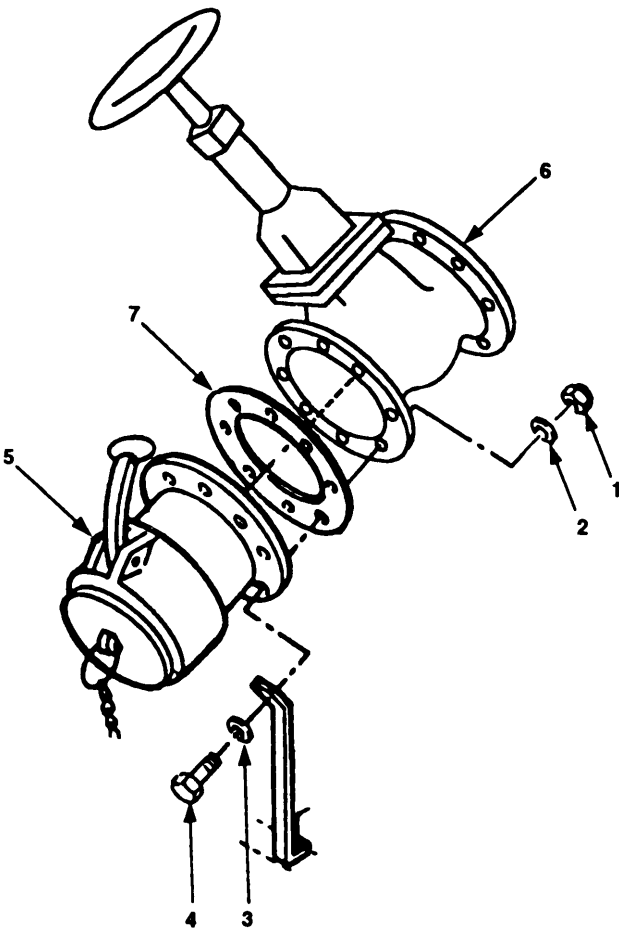

Figure 4-60. Coupling Half Maintenance.
- a. Remove eight nuts (figure 4-60, 1), lockwashers (2), one washer (3) and eight bolts (4) securing coupling half (5) to gate valve (6).
- b. Remove coupling half (5) .
- c. Remove and discard gasket (7).
- a. Install new gasket (7) on gate valve (6).
- b. Position coupling half (5) against gate valve (6) and align mounting holes.
- c. Insert eight bolts (4) through holes in gate valve (6) and coupling half (5).
- d. Install one washer (3), eight new lockwashers (2) and nuts (1) .